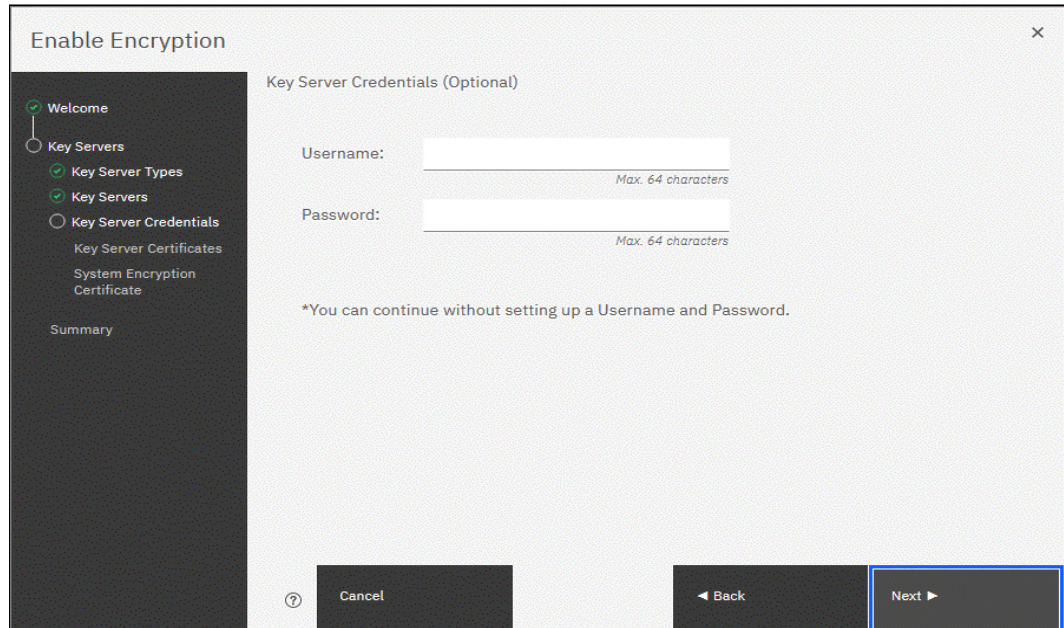

Figure 12-41 Key server credentials input (optional)
5. The next window in the wizard prompts for the key servers' credentials (username and password), as shown in Figure 12-41 on page 769. This setting is optional because it depends on how the SafeNet KeySecure servers are configured.